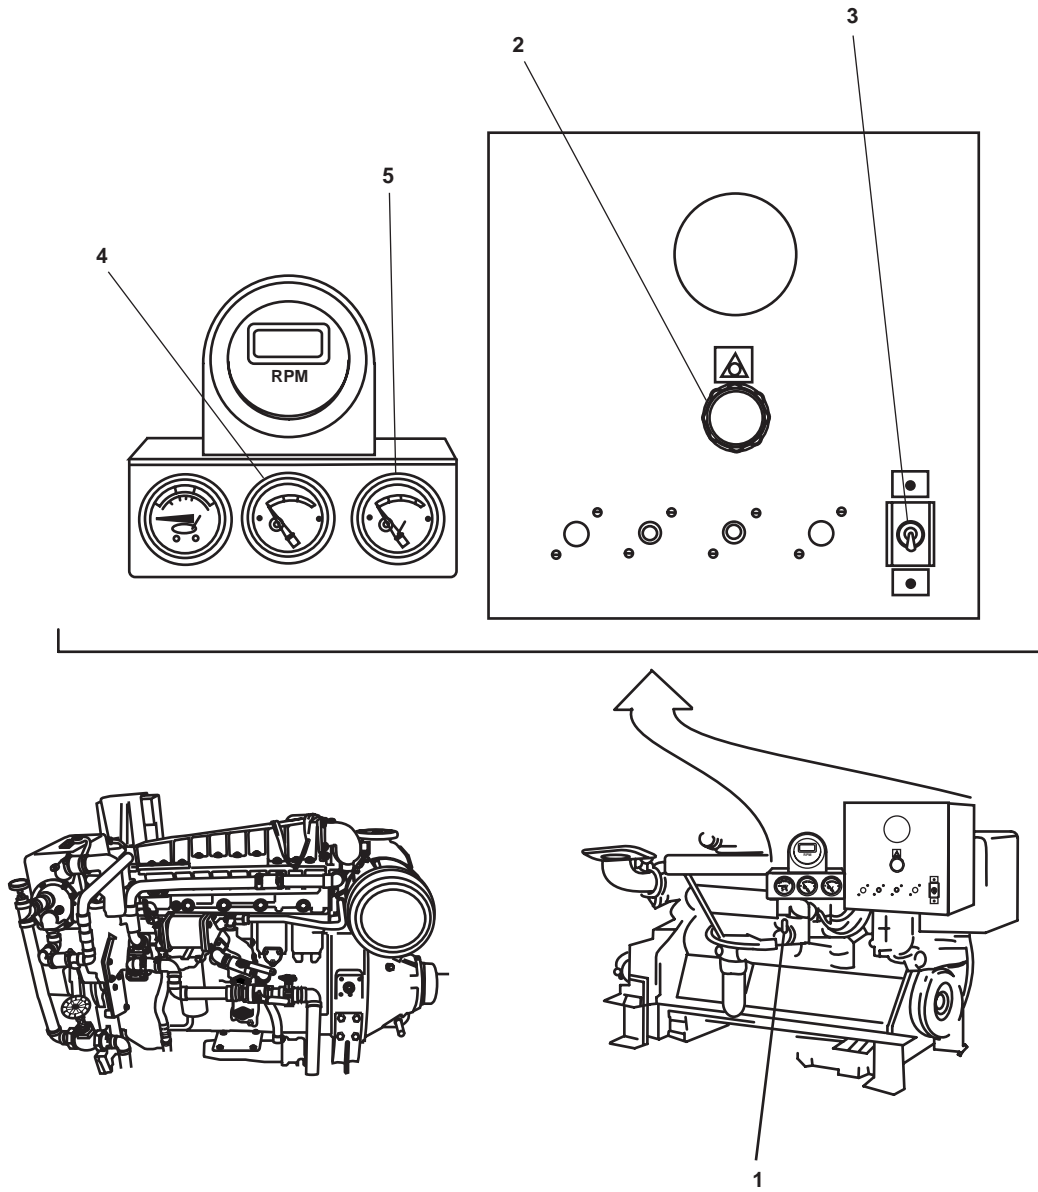

Figure 5. Pump Drive Engine Controls
- b. Move the governor control lever (figure 5, item 1) to the half engine speed position (approximately straight up).
- d. On the pump drive engine control panel, turn the START/STOP pushbutton (figure 5, item 2) clockwise to release the pushbutton to the OUT position.
- e. Push the START/STOP toggle switch (figure 5, item 3) UP to the START position to crank the engine. As soon as the engine starts, release the toggle switch (switch is spring loaded and will return to the center RUN position).
- f. Allow the engine to idle 3 to 5 minutes, or until the oil pressure gauge (figure 5, item 4) indicates between 35 and 70 PSI (2.4 to 4.8 bar).
- h. Check the engine gauges (figure 5, items 4 and 5) for normal operation during the warmup period.
- i. Move the governor control lever (figure 5, item 1) to the high idle position.
- a. Move the governor control lever (figure 5, item 1) to the half engine speed position.
- b. Pull upward on the governor control lever (figure 5, item 1) and then move the governor control lever to the OFF position.
- c. Push IN the START/STOP pushbutton (figure 5, item 2).